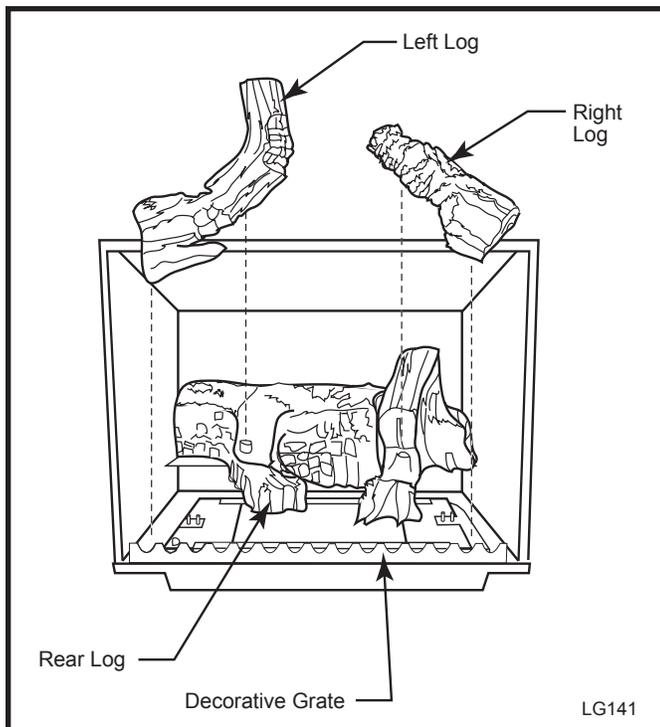

Fig. 19 Install the back, left and right logs.
2. Install the rear log centering it side to side on the sheet metal shelf at the back of the firebox. (Fig. 19) The log will touch both sides and the back wall of the firebox.
3. Install the right log by engaging hole on bottom with pin on the rear log. (Fig. 19) Then set right bottom side on the burner so the edge of the log touches the right side of the firebox. The right log does not use the locator pins on the burner to stay in place.